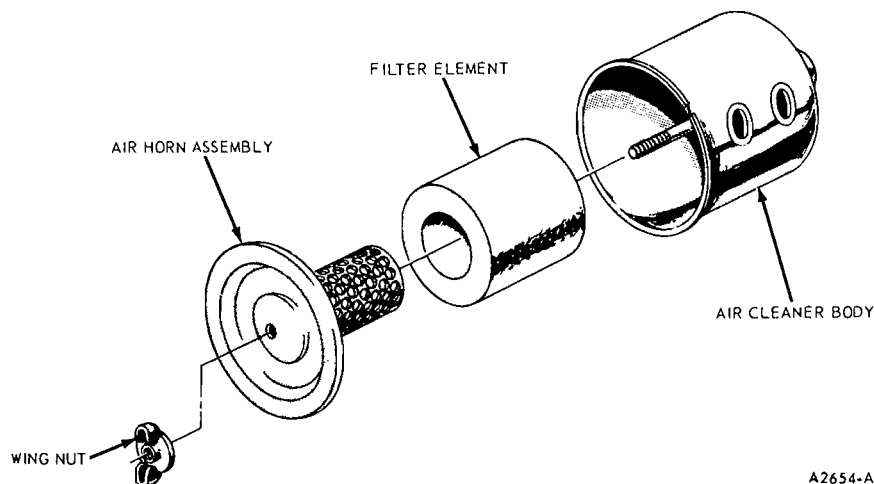

FIG. 23—Thermactor Exhaust Emission System Air Cleaner
1. Remove the wing nut (Fig. 23) and the cover assembly. Remove the filter element from the cover assembly.
assembly. Position the assembled cover and filter element in the air cleaner body. **Be sure the tang is fitted in the slot (Fig. 23).** Install the wing nut.